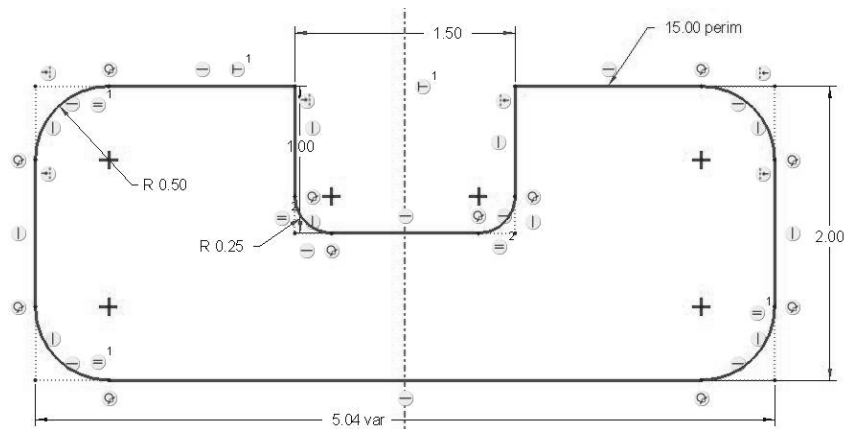

Figure 3-40 Perimeter Dimension Added
Step46: Determine the circumference of this figure using . Remember to *pick* on the line segment with the LMB, then hold down <CTRL> and pick the rest of the segments around the perimeter of the figure. *Pick OK.* Pick the 4.00-inch dimension to be the adjustable dimension. You should get a perimeter of 12.93 inches. What happens to the overall length of the figure if the perimeter is changed to 15 inches? The overall length becomes 5.03 inches. Can you verify this? See Figure 3-40.